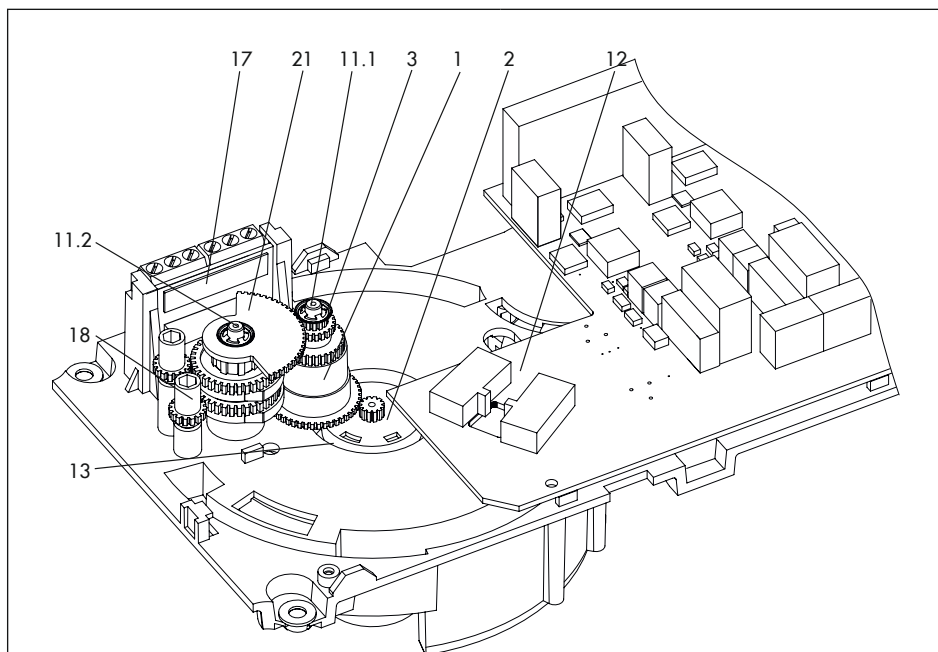

Fig. 5-6: Inside view · Actuator without resistance transmitters
The contact cams (19) are ready-mounted to the cam holder (20) and the retaining rings (9) to form the contact cam unit (21, see Fig. 5-6 on page 5-7).